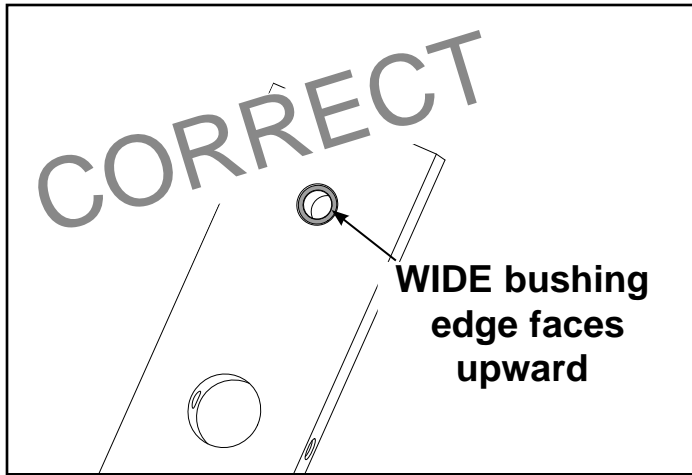

Figure 6A
- H. Carefully install each weight plate one at a time. **NOTE:** When installing weight plates, position plates so wide edges of bushing face upward and narrow edges of bushing face downward. See Figures 6A and 6B.